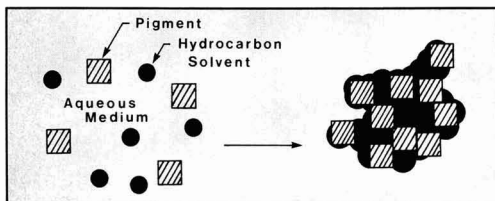

Figure 1—Schematic illustration of spherical agglomeration
Figure 1—DMA of phenolic resin lot B. (A) Isothermal cure in  $N_2$  at  $160^\circ C$  to measure gel time. (B) Subsequent scan in  $N_2$  at  $20^\circ C/min$  from 25 to  $240^\circ C$  to measure  $T_g$
The particular type of agglomeration termed spherical agglomeration has received greatest attention in the field of mineral refining.2-8 In one common application, a surfactant (or "collector") is added to an aqueous mineral slurry to adsorb onto particles of the mineral to be extracted, thus making them hydrophobic. Then, a hydrocarbon (or "bridging liquid") is added, resulting in the formation of large spherical agglomerates that are easily separated from the aqueous phase. The generally-accepted mechanism is that, in this example, the hydrocarbon liquid wets the particles that were made hydrophobic by the surfactant. The particles then collide and are held together by bridges of hydrocarbon as a result of interfacial (oil-water) tension (*Figure 1*). The reverse process has also been used, where water is added to a suspension of hydrophilic particles in a nonwater-miscible liquid.